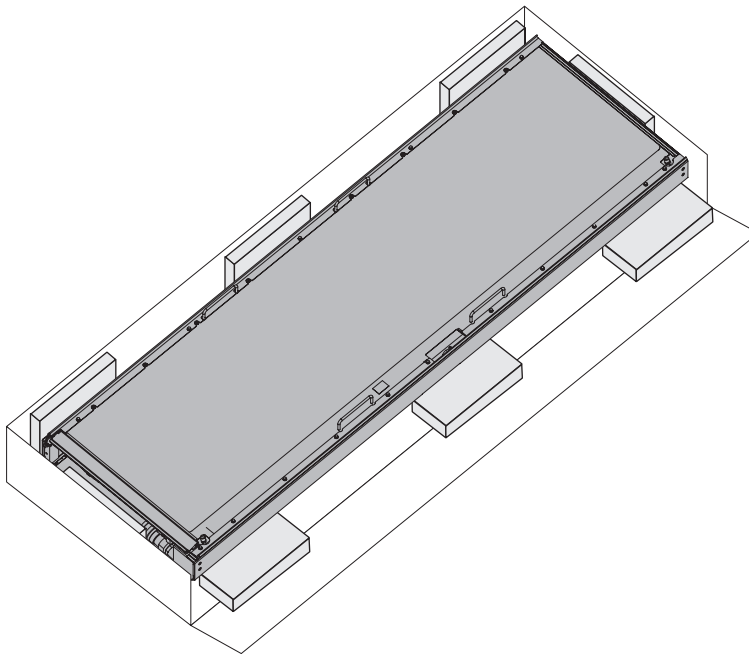

Figure 56. Folding down the carton side and placing the packing inserts evenly on the unfolded cardboard
4. Place three of the rectangular cardboard packing inserts evenly on the unfolded cardboard. See Figure 56.